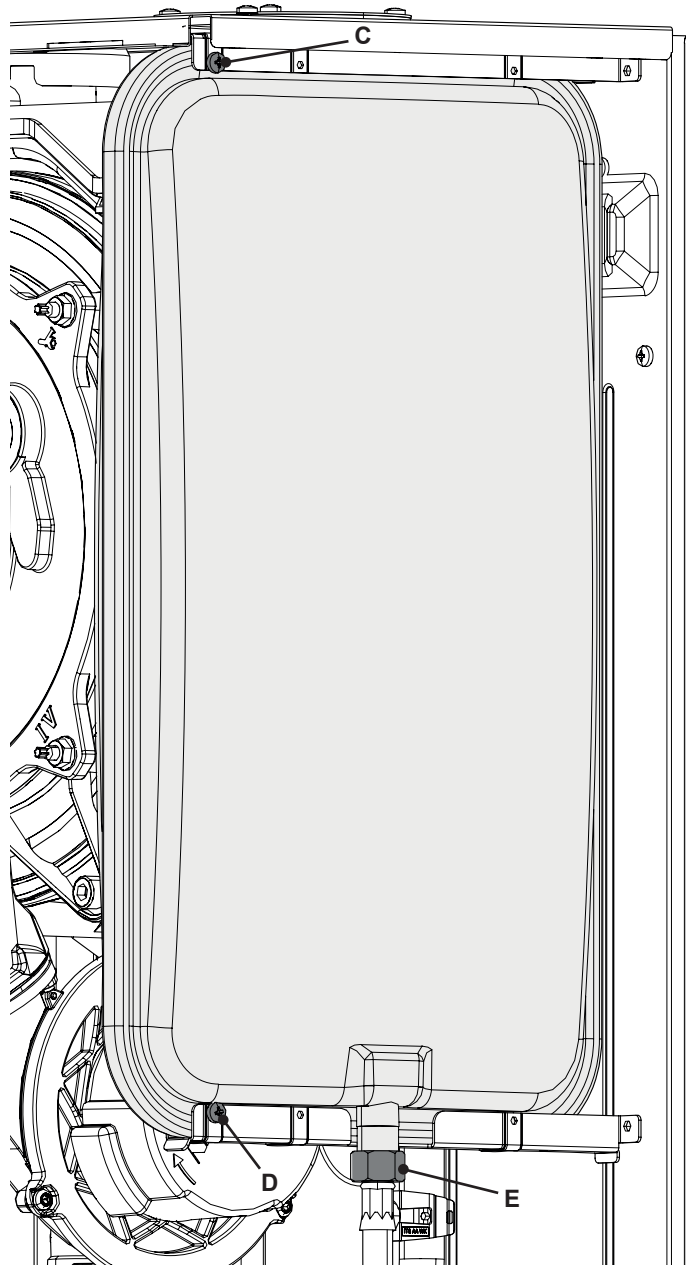

Figure 13.3
- 2 Completely unscrew the connection "E" (Figure 13.3).
- 3 Unscrew the screws "D" and "C" (Figure 13.3).